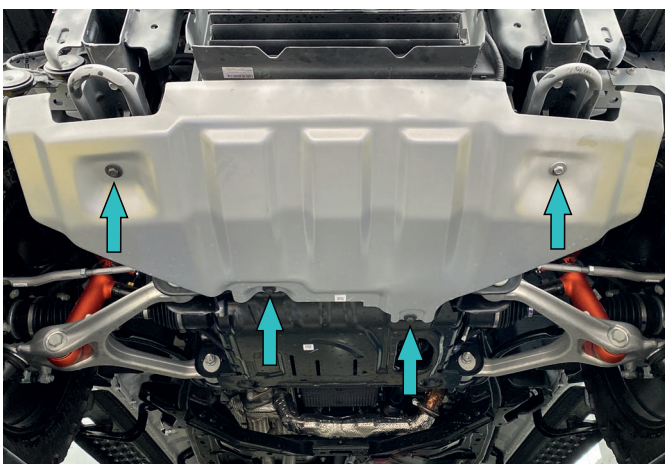

Fig.17
17. Unscrew factory bolts of engine skid plate. (fig.17)